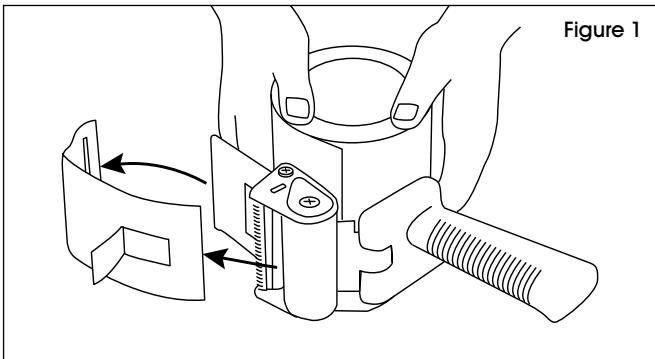

Figure 1
1. Place tape onto tape drum to dispense tape forward from top of roll. Pull tab to remove and discard blade protector. (See Figure 1)